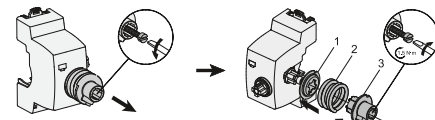

Рисунок 9 – Монтаж поворотной рукоятки на боковой по распределительного шкафа / Figure 9 – Mounting the handle on the side of the distribution cabinet
If you decide to mount the rotary handle on the side of the distribution cabinet, attach the metal rod fastening mechanism to the side of the operating module as shown in Figure 9. To do this, remove the screw (item 4 in figure 9) that secures the fastening mechanism and then mount it on the side surface in the following sequence:
- metal washer (item 1 in figure 9);
- compression spring (item 2 in figure 9);
- metal rod fastening mechanism (item 3 in figure 9).
Once assembled, tighten the screw (item 4 in figure 9) that secures the metal rod mounting to the operating module;
- Insert the metal rod into the mounting hole of the operating module and secure it with the screw of metal rod, as shown in figure 9, using a hex wrench;